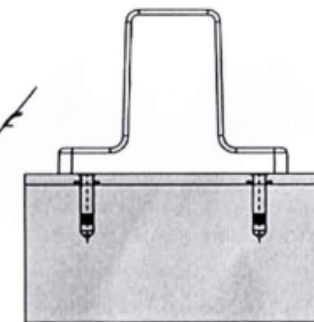

Fig 3
4. Installing the expansion tube into the 2 holes, fix them with screw M4\*32 Fig 3.